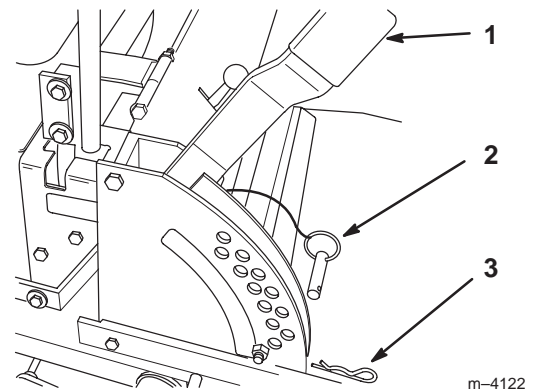

Figure 16
1. Raise the height-of-cut lever to the transport position (also the 4-1/2 in. [114 mm] cutting height position) (Fig. 16).
2. To adjust, remove the hairpin cotter and clevis pin from the height-of-cut bracket (Fig. 16).
3. Select the hole in the height-of-cut bracket corresponding to the height-of-cut desired, and insert the clevis pin (Fig. 16).
4. Secure the clevis pin with the hairpin cotter (Fig. 16).
5. Lower the height-of-cut lever onto the clevis pin (Fig. 16).